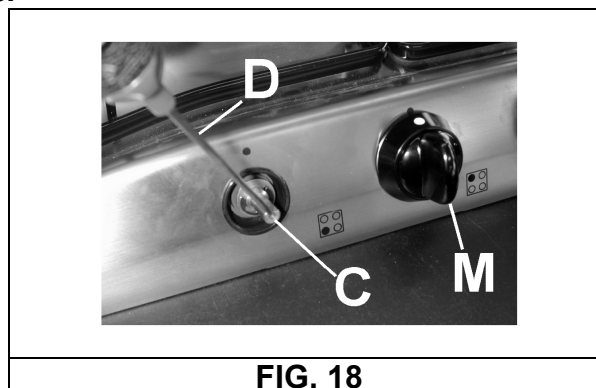

FIG. 18
- Remove knob “M” (fig. 18) of the tap, which is simply pressed on to its rod.
- Insert a small screwdriver “D” into hole “C” (fig. 18) and turn the throttle screw to the right or left until the burner flame has been adequately regulated to the “Reduced rate” position.